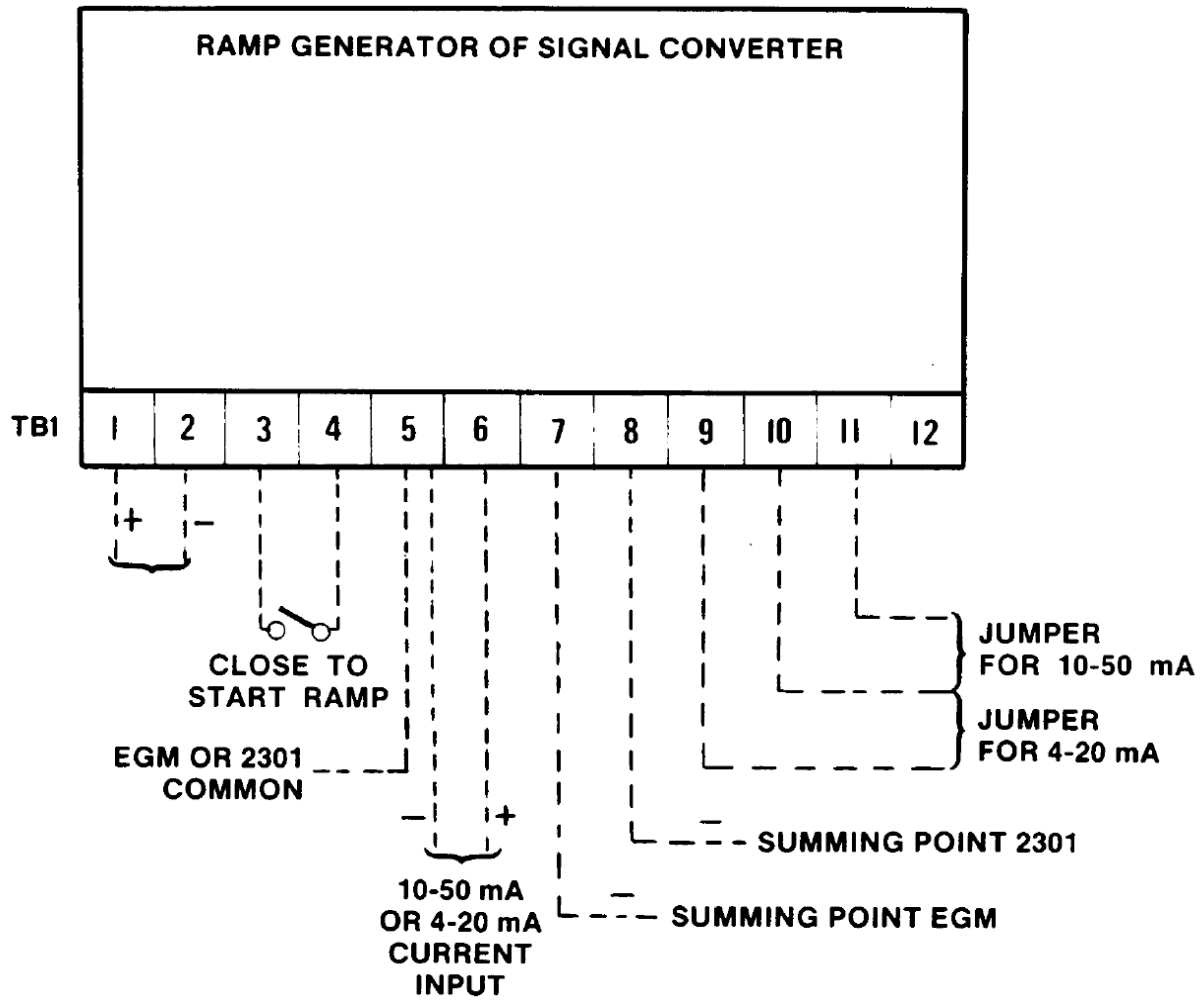

Figure 2-2. Plant Wiring Diagram
Wire all input and output connections for the ramp generator/ signal converter as shown in the plant wiring diagram (Figure 2-2).
- Use the plant wiring diagram (Figure 2-2) to verify all the wiring inputs to, and outputs from, the control.